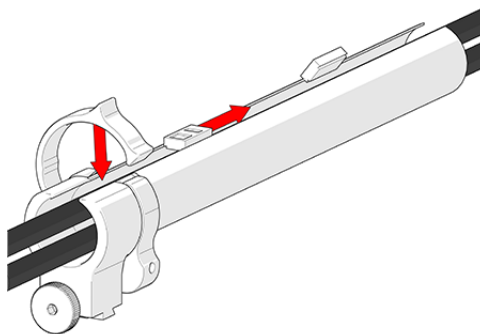

Figure 3-53 Zip up to close
2. Follow the cable placement zipping the tube closed and closing the zipper tube cable clip (see Figure 3-53 on page 74).